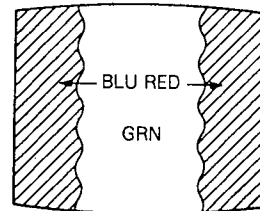

Fig. 3-2
5. Move the deflection yoke backward, and adjust with the purity control to become green is in the center and blue and red are at the sides, evenly. (Fig. 3-2)